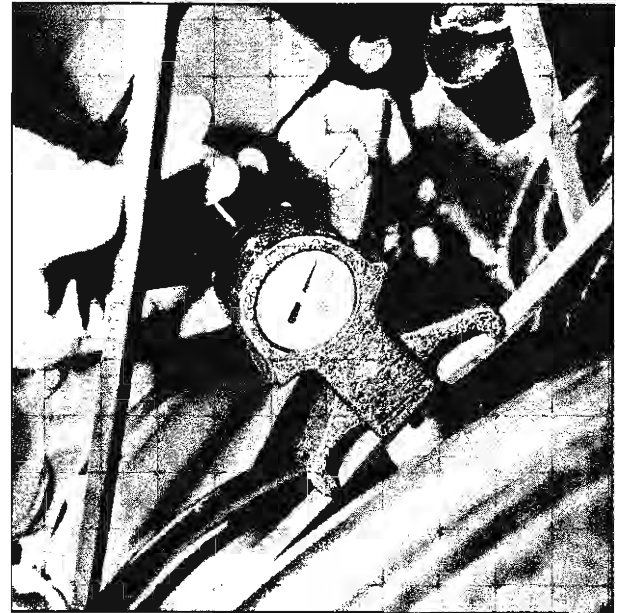

Fig. 41—Checking Belt Tension with Tool J-7316
2. Move pump, with belt in place, until belt is tensioned to 75 lbs. strand tension for new belts, and 70 lbs. strand tension for old, as indicated by Tool J-7316 (fig. 41), or so that 15 lbs. of force applied at the midpoint between the power steering pump pulley will cause 1/2" to 3/4" belt deflection (fig. 42).
The following procedure outlines methods to identify and isolate power steering hydraulic circuit difficulties. This test is divided into two parts. Test number one provides means of determining whether power steering system hydraulic parts are actually faulty. If test number one results in readings indicating faulty hydraulic operation, test number two will identify the faulty part. Before performing hydraulic circuit test, carefully check belt tension and condition of driving pulley. Strand tension of belt should be 75 lbs. on new belts and 70 lbs. on old belts, as indicated by Tool J-7316 (fig. 41).